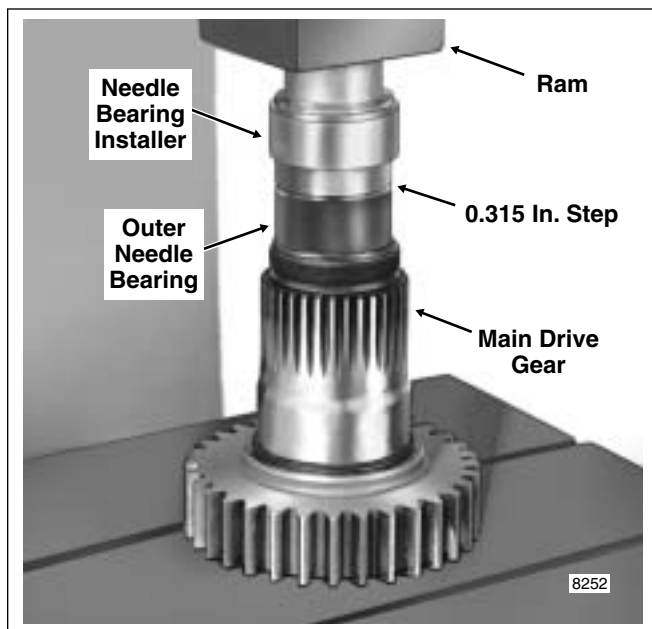

Figure 7-31. Press Clutch Side Needle Bearing into Main Drive Gear
7. Apply pressure until shoulder on tool makes light contact with the gear. See Figure 7-31. Remove tool.